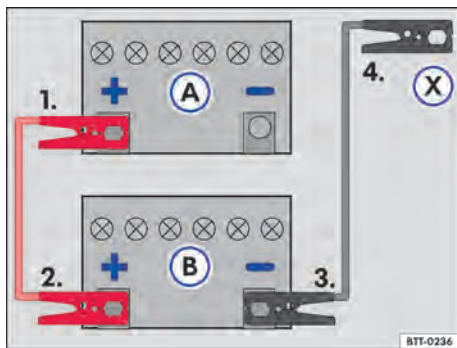

Fig. 178 Jump lead attachment diagram: discharged vehicle battery (A) and battery in the vehicle providing assistance (B).
Key for → Fig. 178:
Connect the jumper cable strictly following the sequence 1 – 2 – 3 – 4 → Fig. 178.
- Connect one end of the *red* jump lead to the positive terminal (+) of the vehicle with the discharged battery → Fig. 178(A) → ⚠.
- Connect the other end of the *red* jumper lead to the positive (+) terminal of the assisting battery (B).
- Connect one end of the *black* jumper lead to the negative terminal of the assistance supply-battery (B).
- Connect the other end of the *black* jump lead (X) to the vehicle with the discharged battery at the jump starting point (grounding point) or to a metal part firmly bolted to the cylinder block – but not near the battery (A) → ⚠.